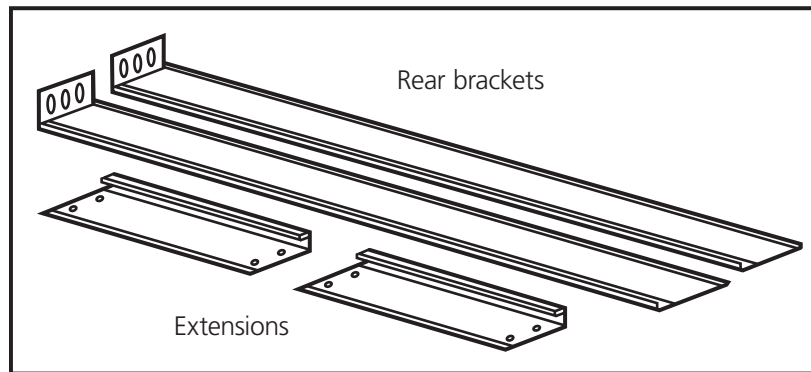
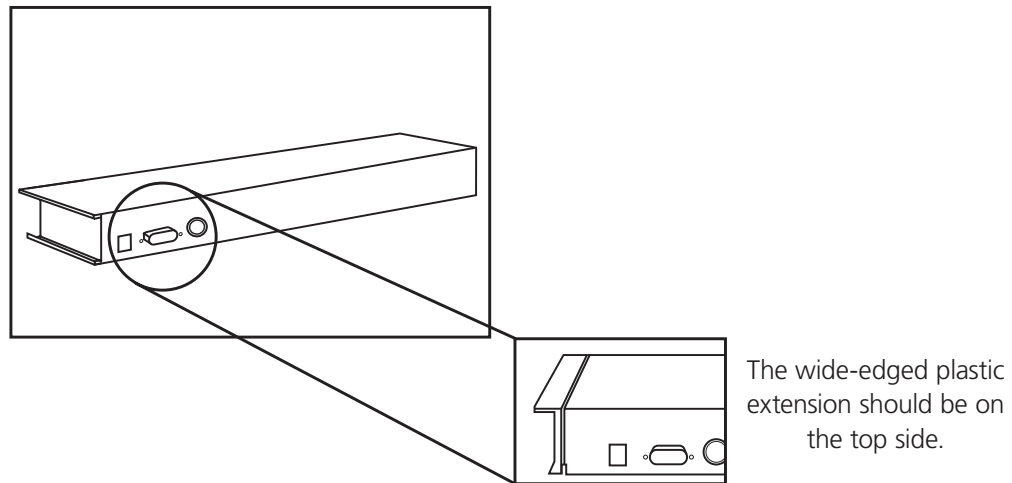

Figure 3-1. Rear brackets and extensions.
Figure 3-5. Back view of module with extensions attached.
2. Using eight counter-sunk screws (included), attach the extensions (included with your ServView V Kit) to both sides of the KVM switch module. See Figures 3-1 through 3-5. The wide-edged plastic extension should be on the top side (see Figure 3-5).